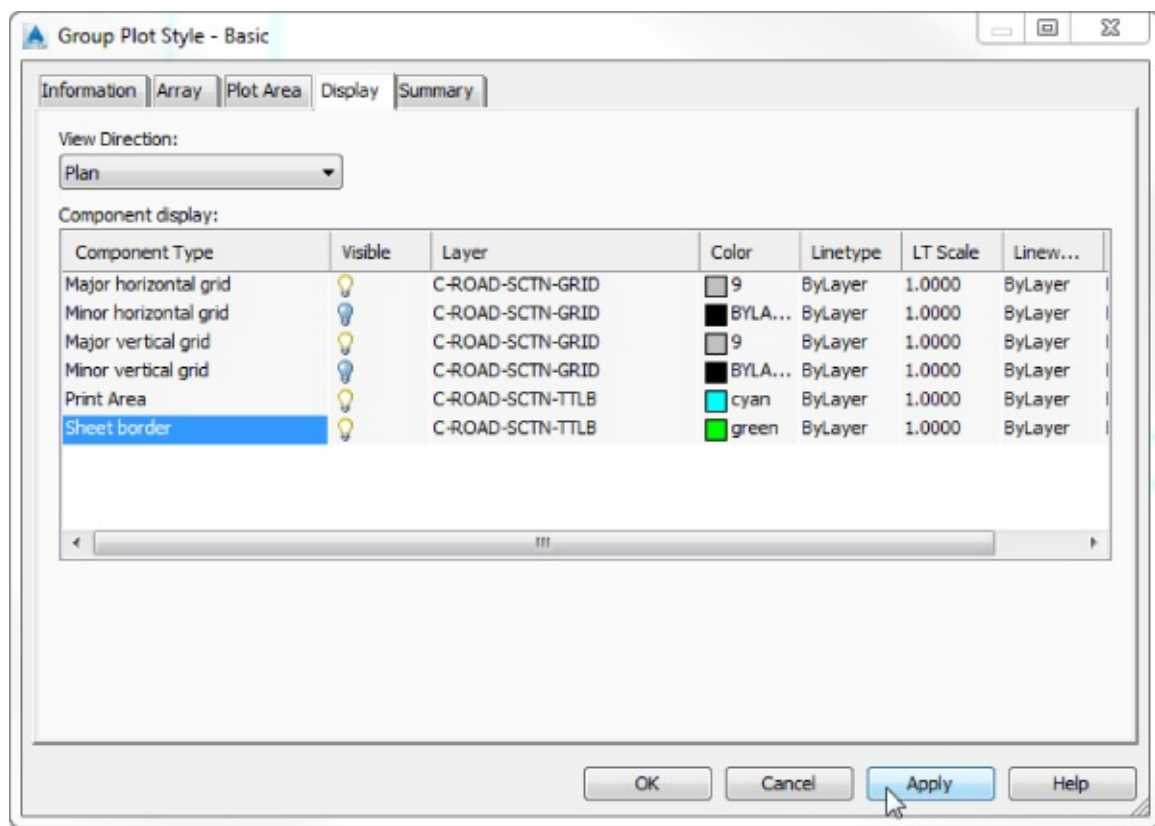

Figure 19.65 The Display components for the group plot style
- f. Set Color for Print Area to Cyan and Sheet Border to Green. Your Display tab will look like Figure 19.65.